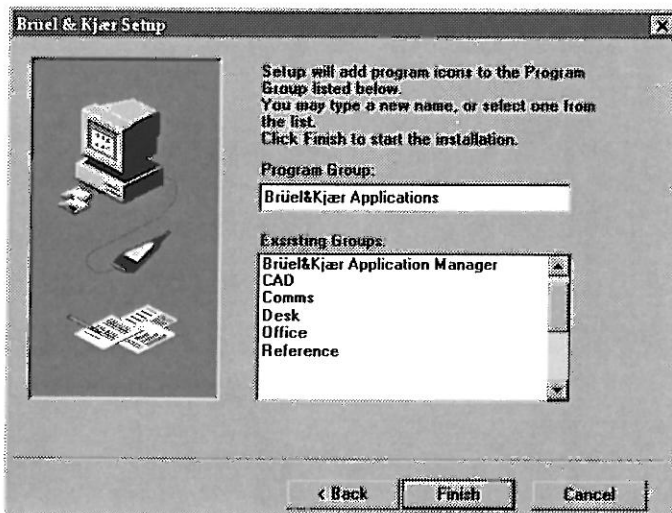

Fig.2 The group to which Noise Explorer is added is specified in the Program Group box
12. The window that appears next (see Fig.2) asks you to select a Program Group.